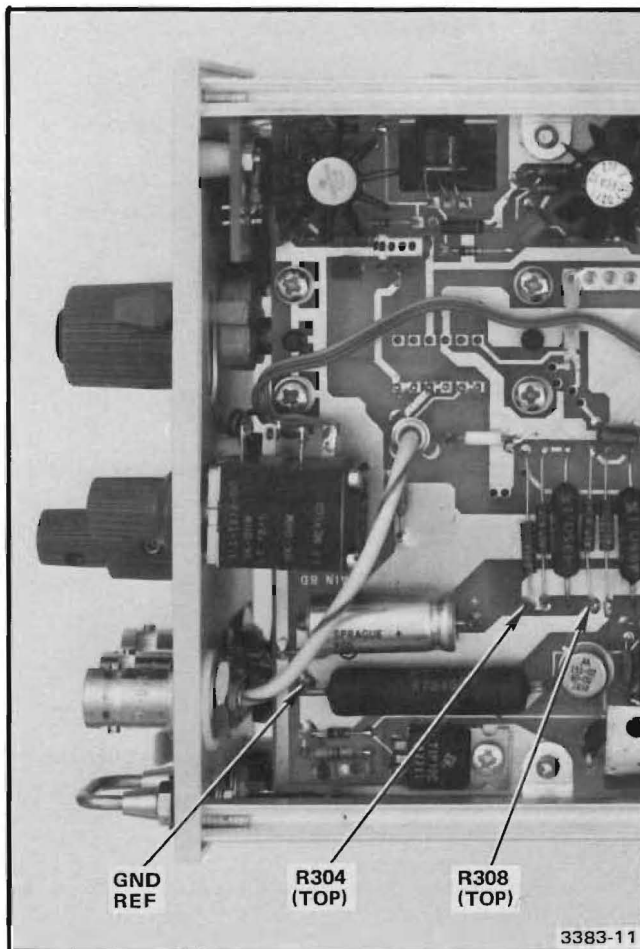

Fig. 4-1. Attenuator connections for current source.
- k. Connect the variable 20 mA current source positive lead to the top or R308. See Fig. 4-1.
- l. Connect the variable 20 mA current source negative lead to the common floating ground. See Fig. 4-1.
- q. Connect the variable 20 mA current source positive lead to the top of R304. See Fig. 4-1.